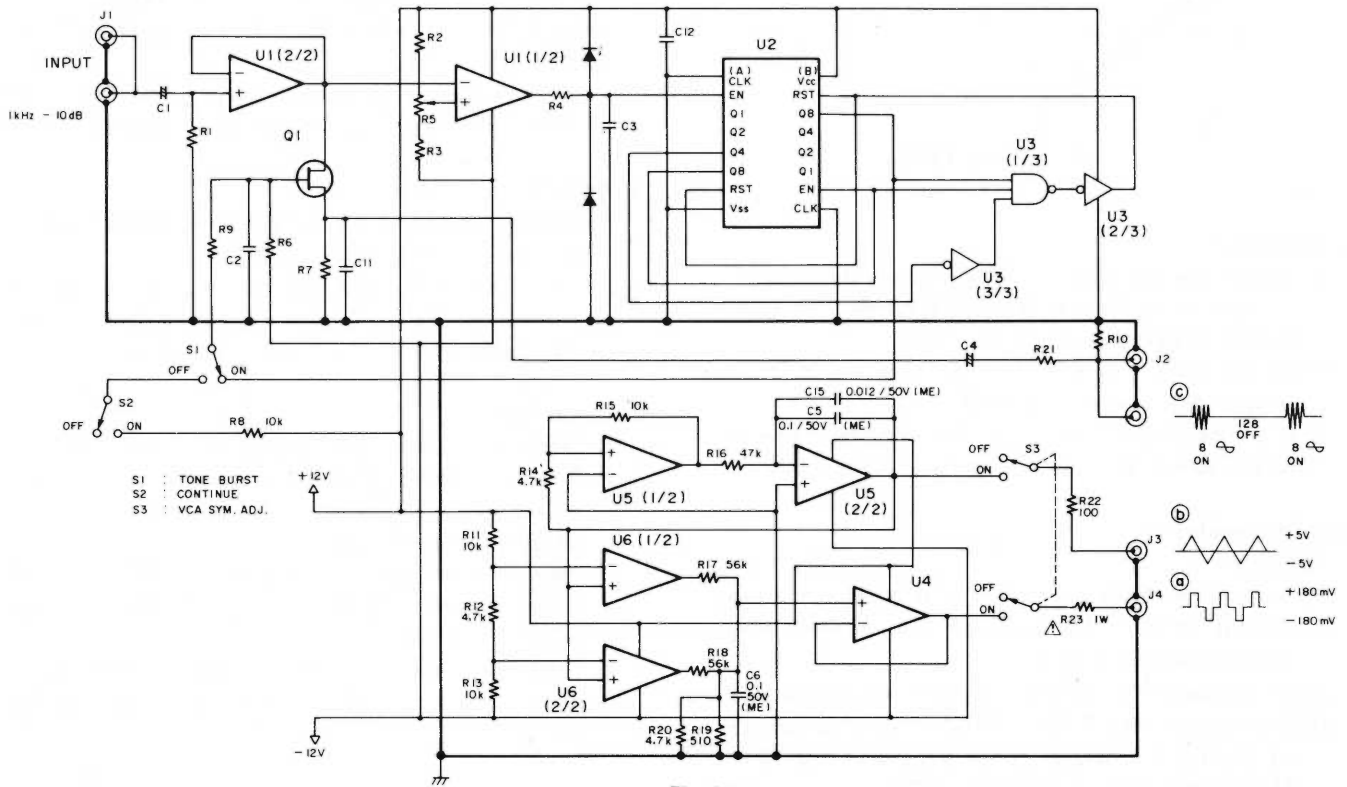

Fig. 4-6-8
- 1) Apply step wave (a) signal from the dbx designated circuit as shown in Fig. 4-6-8 to TP-13 (\sim TP-43) terminal. Then connect TP-11 (\sim TP-41) terminal to pin 3 of the connector D002 (Refer to GND, Fig. 4-6-1 (a)) to lead to the ground.
- 1) Feed a tone burst signal \textcircled{C} (8 cycles on — 12 cycles off) as shown in Fig. 4-6-8 to the PGM BUSS IN 1 (\sim 4) and connect on oscilloscope to TP-13 (\sim TP-43).
- 1) Apply step wave signal \textcircled{a} from the circuit in Fig. 4-6-8 to TP-13 (\sim TP-43) terminal.
- 2) Connect TAPE OUT 1 (\sim 4) terminal to the "VER" side of the oscilloscope and sawtooth signal \textcircled{b} in Fig. 4-6-8 to the "HOR" side.
- 3) Apply tone burst signal \textcircled{C} in Fig. 4-6-8 to TP-11 (\sim TP-41) and pin 3 of connector P002, then connect the oscilloscope to TP-13 (\sim TP-43).